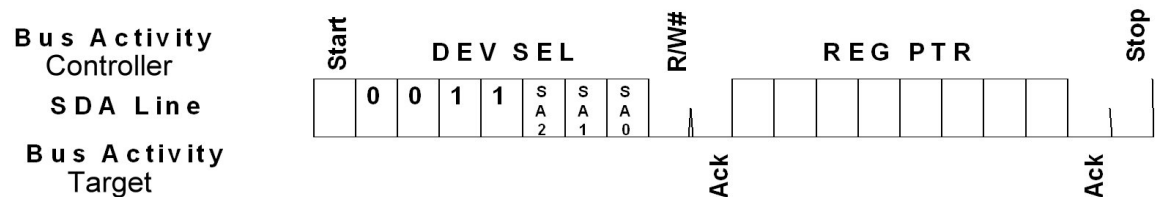

Figure 11 — I2C Bus Write to Pointer Register
Writing to the TSE2004av Temperature Register Set is accomplished through a modified block write operation for two (2) data bytes. To maintain I2C Bus compatibility, the 16 bit register is accessed through a pointer register, requiring the write sequence to include an address pointer in addition to the Target address. This indicates the storage location for the next two bytes received. Figure 11 shows an entire write transaction on the bus.